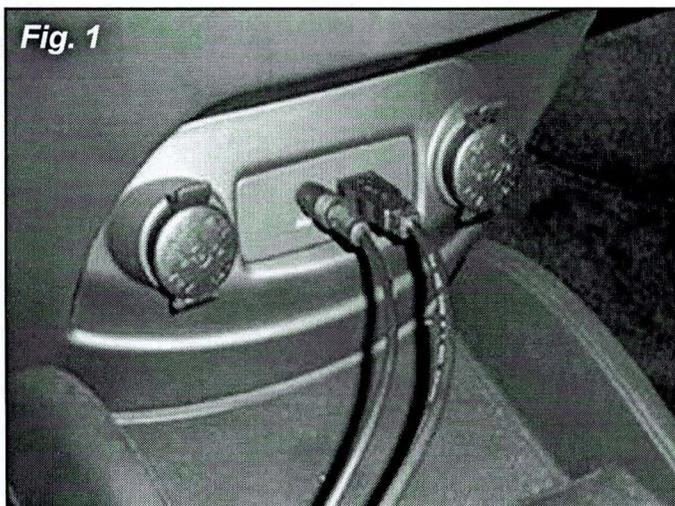

Fig. 1
2. Connect the MIT's AUX and USB cables to the AUX/USB/iPod ports on the vehicle (as shown in Fig. 1 below).